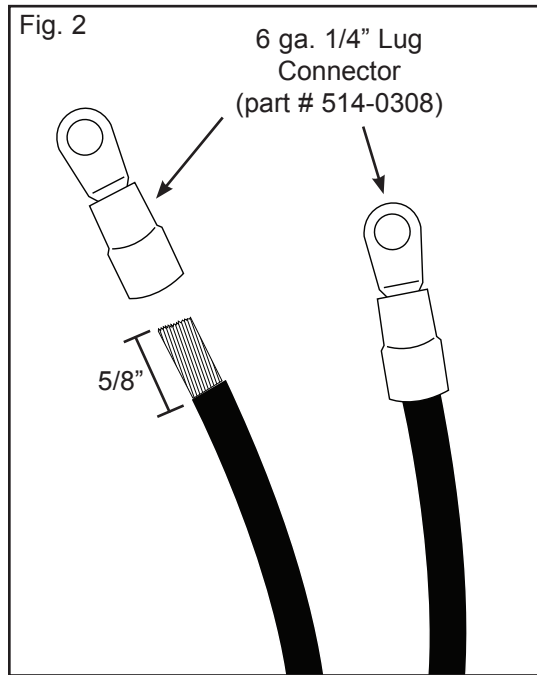

Fig. 2
- B. Attach connectors (part # 514-0308) and crimp (Fig. 2).